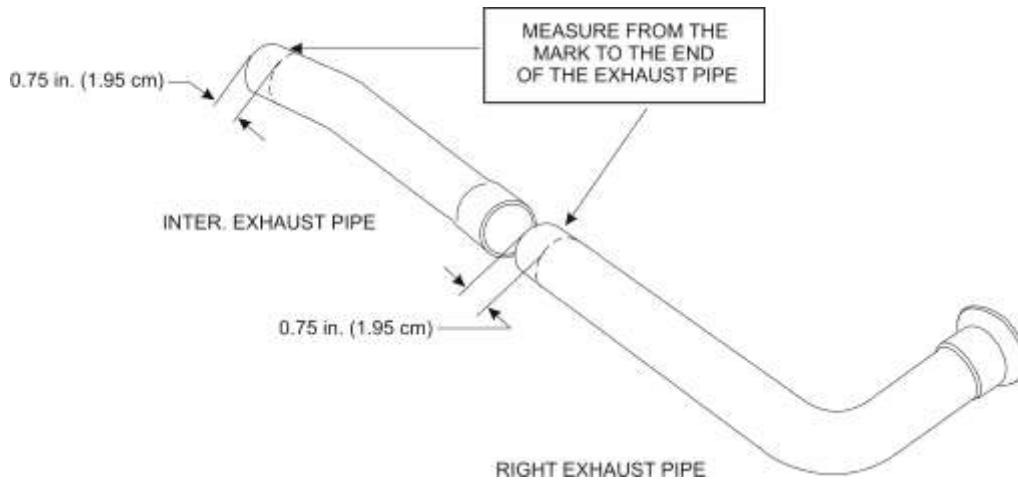

Figure 5
- F. To make sure that each exhaust system slip joint is correctly attached, and to examine all of the flange joints at the transition inlet, measure the distance from the mark (made earlier) (Figure 5) to the end of the right exhaust pipe. If this measurement is less than 0.75 in. (1.95 cm), replace the pipe.
- G. Measure from the mark to the end of the intermediate exhaust pipe (Figure 5). If this measurement is less than 0.75 in. (1.95 cm), replace the pipe.